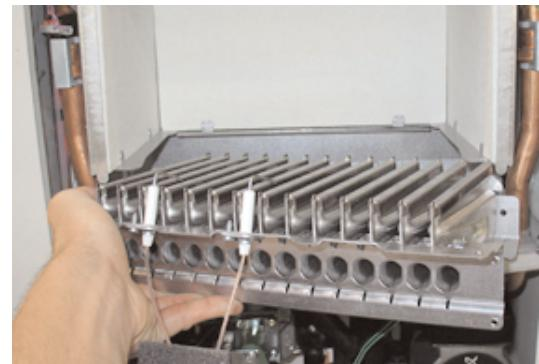

Fig. 53
3. Pull the burner out of the combustion chamber (see Fig. 53);